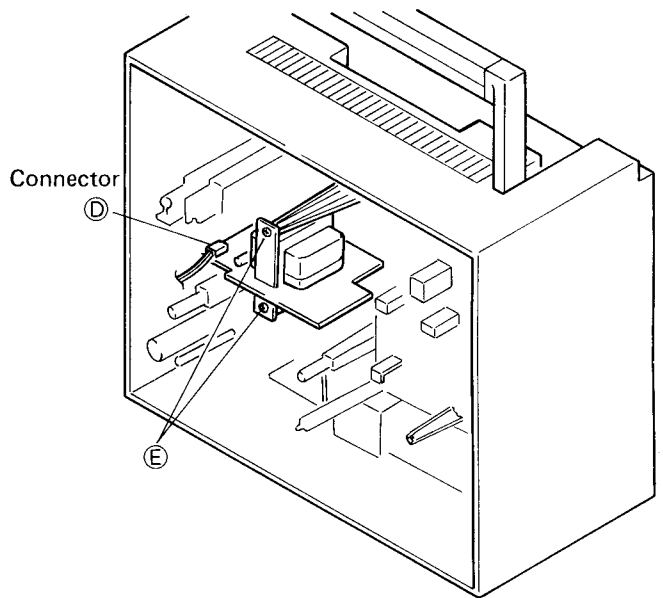

Fig. 5
6. Removing the Power Supply P.W.B. (Fig. 5)